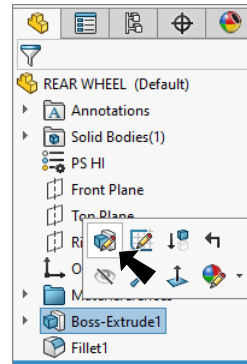

Fig. 16
Step 1. Click **Boss-Extrude1** in the Feature Manager and click **Edit Feature**  on the context toolbar, **Fig. 16**.